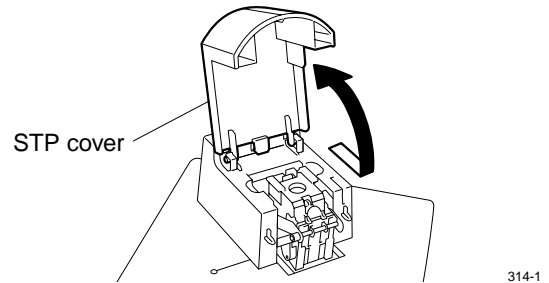

Fig. 6-1
1. Detach STP cover. (See Fig. 6-1 and 6-2)
- Detach STP cover. (See Fig. 6-1 and 6-2)